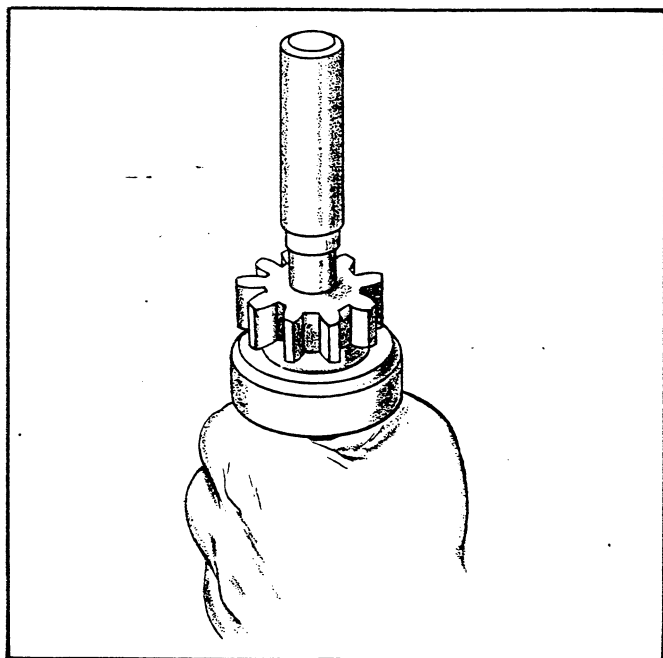

FIGURE 34. REMOVING RING
4. Remove the ring after driving the pinion stopper toward the pinion gear using a cylindrical tool as shown in Figure 34. The overrunning clutch and the pinion stopper should be removed simultaneously.